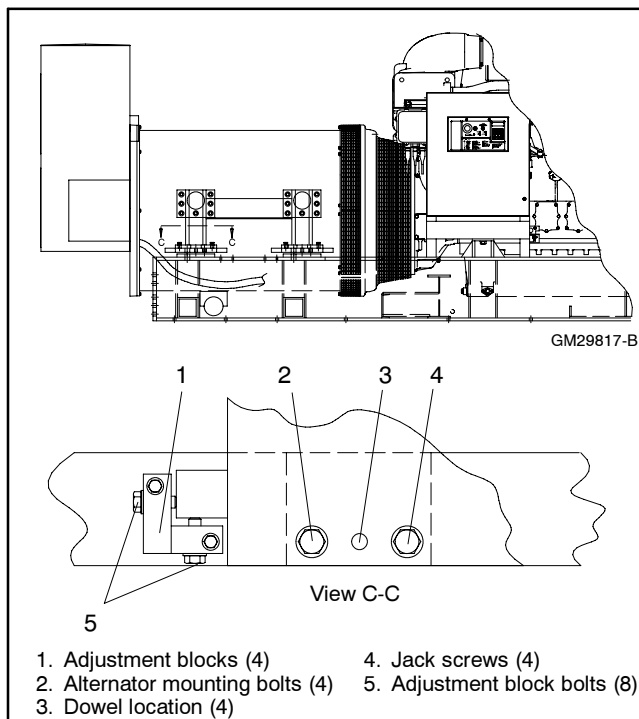

Figure 3-15 Alternator Adjustment Layout
- b. Install the eight adjustment bolts into the four adjustment blocks on the generator set skid. See Figure 3-15. Keep the eight adjustment screws loose so they do not affect *soft foot* measurements. *Soft foot* exists when the alternator does not rest flat on its base and only three of the four mounting points support the alternator.
- d. Check angular, axial, and parallel alignments. See Figure 3-15. Use the jack screws and shims to adjust the height of the alternator. Use adjustment bolts to adjust horizontal position of the alternator. Loosen opposing adjustment bolt prior to tightening an adjustment bolt.
- a. Select opposite corner dowel pin mounting locations. See Figure 3-15.